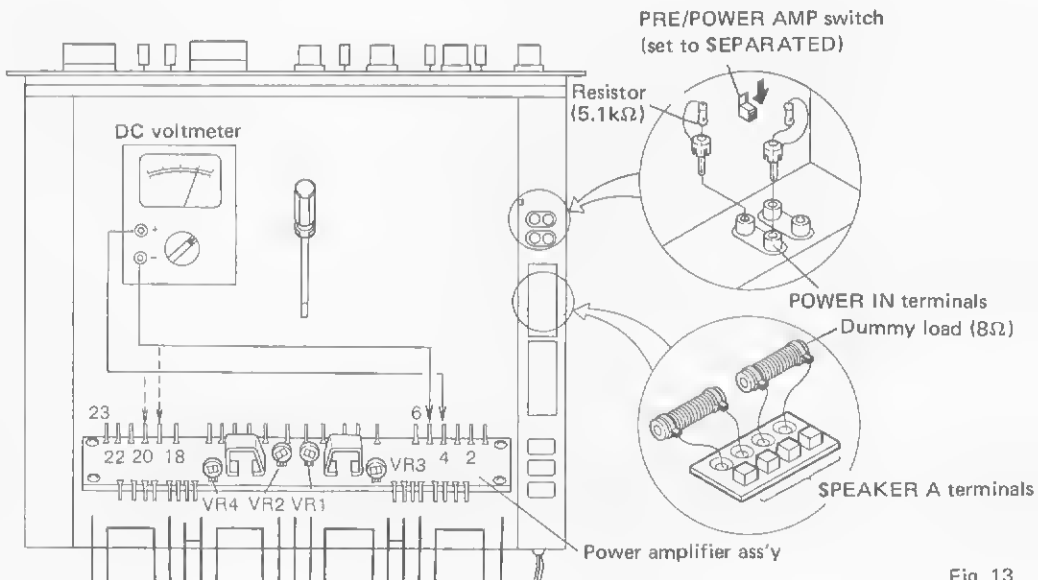

Fig. 13
- (1) Set the PRE/POWER AMP switch to the SEPARATED (lower) position.
- (2) Fit  $5.1k\Omega$  resistors to the POWER IN terminals as shown in Fig. 13.
- (3) Connect  $8\Omega$  dummy loads between the SPEAKER A terminals as shown in Fig. 13.
- (4) Set the SPEAKERS switch to position A. Turn on the POWER switch.
- (5) Connect a DC voltmeter (100mV/full scale) between pins 4 and 5. Adjust VR1 until the voltmeter indicates 0V.
- (6) Connect the DC voltmeter between pins 20 and 19. Adjust VR2 until the voltmeter indicates 0V.